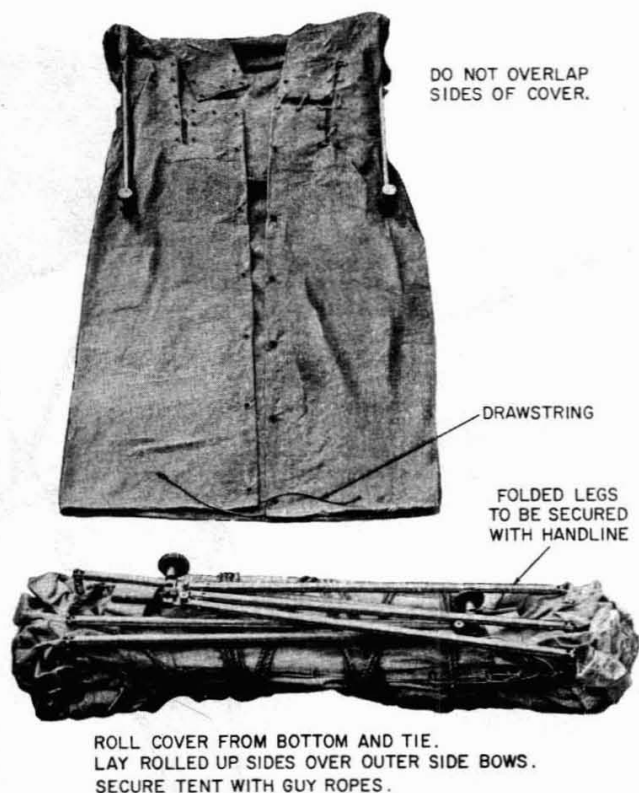

Fig. 6—Preparing D Workman's Tent for Placing or Storage
5.01 To prepare the tent for placing, lay it flat on the ground, fold the sides, roll up the sidewalls, and tie them with the sidewall ropes (Fig. 6). Before folding the legs parallel to the top secure the tent by tying it with the guy ropes. Fold the legs parallel to the top. The legs will be held in place by the handline.